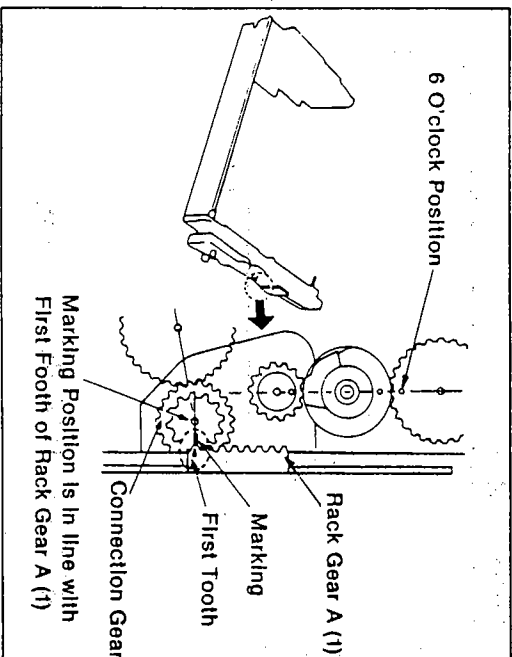

Figure M59
3. Put the Sub Wiper Arm (R) in it's full down position (Sub Wiper Arm should rest on plastic protrusion on the bottom of the right side plate).
4. Install the cassette compartment (without cassette holder) to chassis so that the rectangular marking (or slot) on the connection gear should be line up with first tooth of the Rack Gear as shown in Figure M59 and M60.